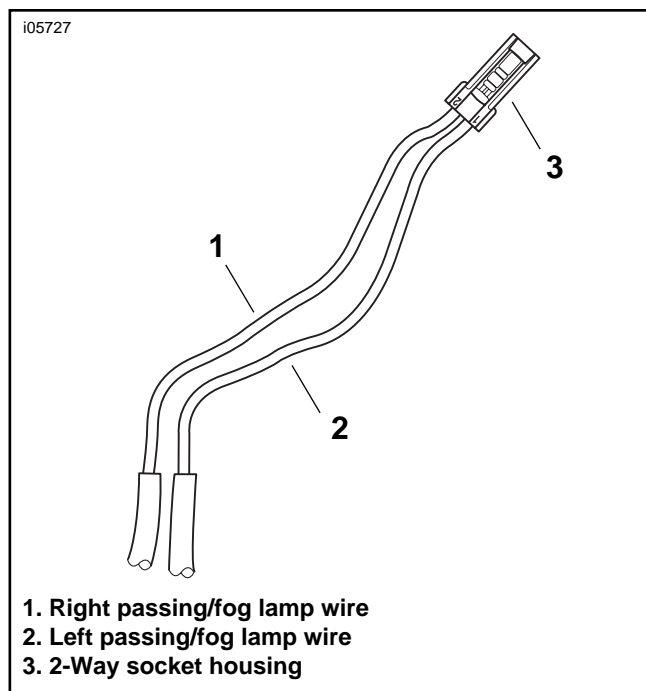

Figure 6. Install the Socket Housing
18. See Figure 6. Install the passing/fog lamp wires (1 and 2) into the 2-way socket housing (3):